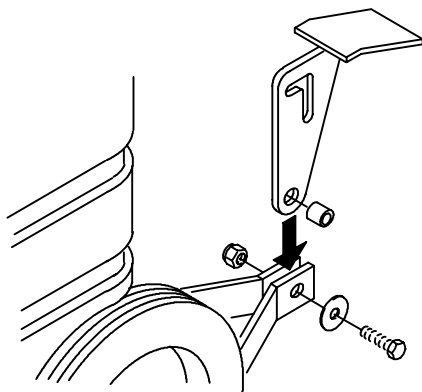

FIG. 5
7. Insert spacer through hole in pedal then position pedal between two holes in squeegee bracket. Secure with hardware provided (Figure 5).